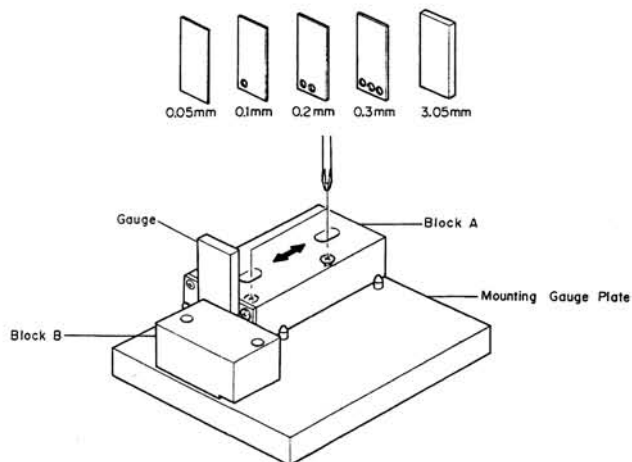

Fig. 2.18
Refer to Figs. 2.18 and 2.19.
- As shown in Fig. 2.18, hold the Gauges (3.05 mm and 0.1 mm thickness) between the Block A and Block B, and fix the Block A with screws, pushing the Block A to the 2 guide pins.
- As shown in Fig. 2.18, hold the Gauges (3.05 mm and either one of 0.05, 0.15, 0.2, 0.25, 0.3 or 0.35 mm thickness) between the Block A and Block B, and fix the Block A with screws, pushing the Block A to the 2 guide pins.